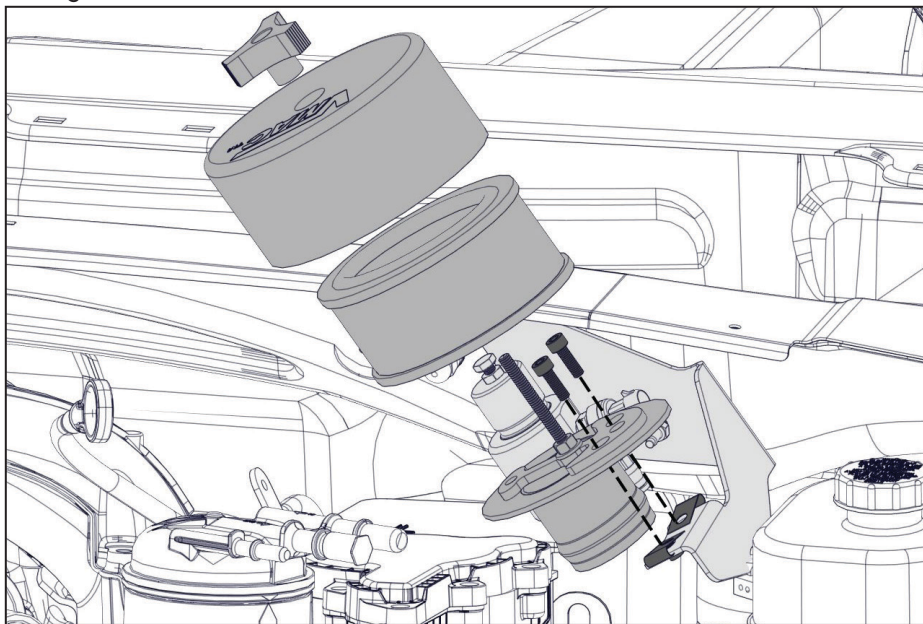

Figure 39 — Installing the air filter
- ☐ Using the supplied M6 fasteners, secure the filter plate to the bracket (Figure 39).